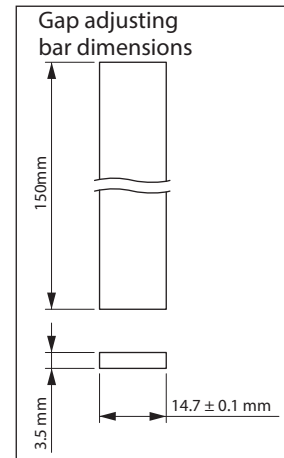

Figure 8-21
- (3) Insert the gap adjusting bar (customer to prepare an angle plate. See Figure 8-21) from between the outer disc [14] and the center ring [1] into a hole for a gap adjusting screw [2].